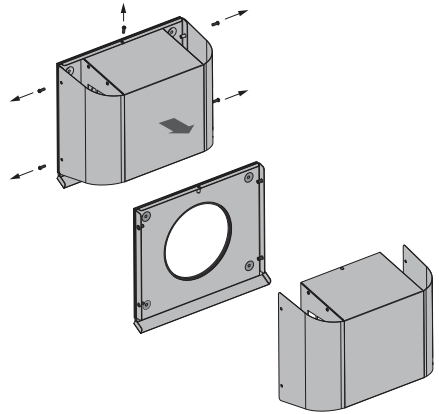

Figure 10
10. Disassemble the exterior-mounted hood to enable access to the fastening holes. Remove 5 screws and take off the front part of the exterior-mounted hood as shown in Figure 10.